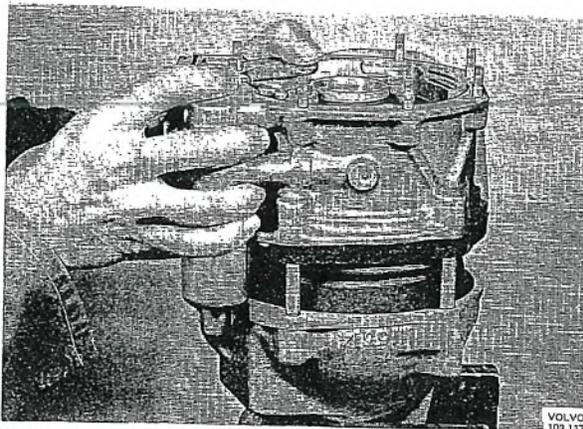

Fig. 4-40. Disassembling overdrive
- Unscrew the nuts holding the brake ring, front and rear casing. Loosen the nuts gradually all round in order to avoid any distorted tension from the springs. Lift off the front casing and brake ring, see Fig. 4-40.